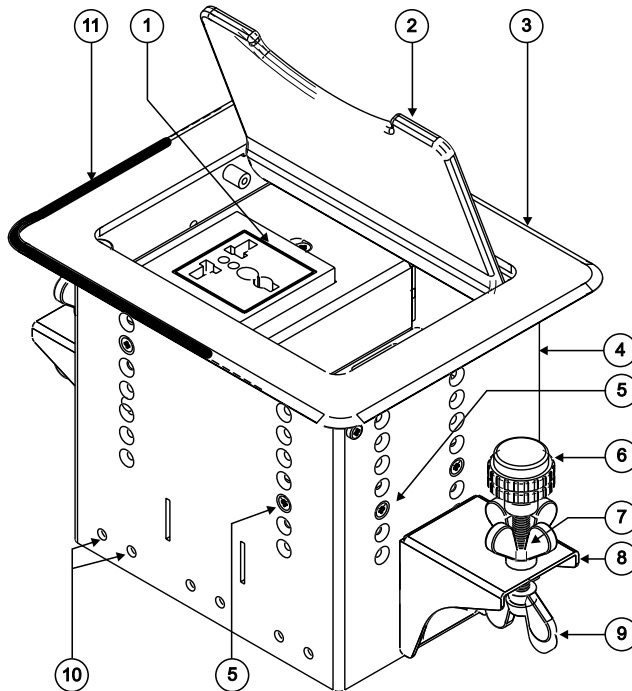

Figure 2: TBUS-9 Table Connection Bus (Top View)
Figure 2 and Table 1 define the unit.
1. Remove the eight height adjustment screws (two screws on each side, as shown in *Figure 2*), while supporting the surface from underneath with your fingers.
3. Take the support brackets under the table and place them into the support bracket grooves on both sides of the unit (see *Figure 2*).